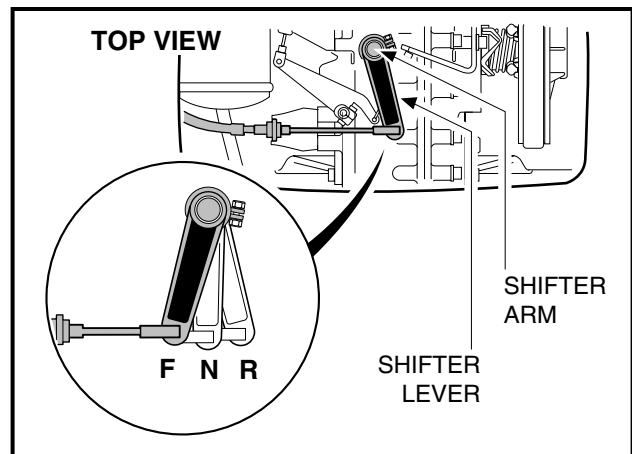
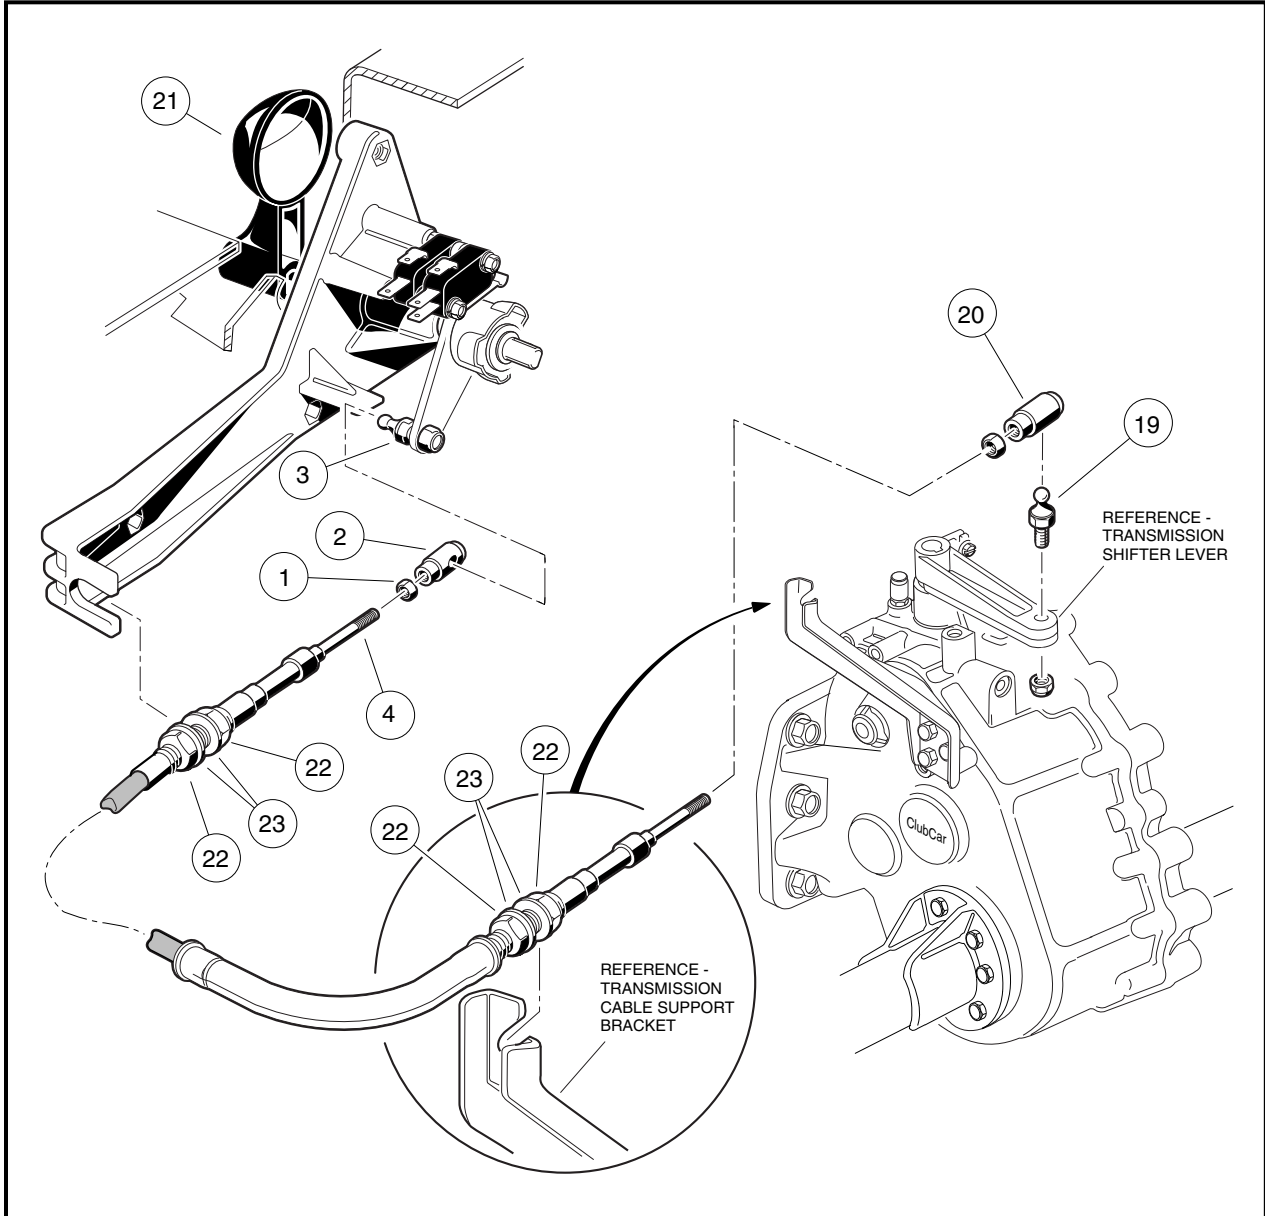

FIGURE 10-106
FIGURE 10-107
## REMOVAL OF THE FORWARD AND REVERSE SHIFTER CABLE (FIGURE 10-107)
1. Remove the ball joint socket (2) from the forward and reverse shifter assembly ball stud (3) (Figure 10-107, Page 72).
2. Remove the ball joint socket (20) from the shifter arm ball stud (19) on the transaxle (**Figure 10-107**).
3. Loosen the retaining nuts (22) on both ends of the cable (**Figure 10-107**).
2. Secure the cable with retaining nut (22) and washer (23) on each side of the shifter cable support bracket at the transaxle (**Figure 10-107**).
3. Secure the cable with retaining nut (22) and washer (23) on each side of the shifter cable support bracket at the forward and reverse assembly (**Figure 10-107**).
4. Install the ball joint socket (20) on the shifter lever ball stud (19) on the transaxle (**Figure 10-107**).
5. Install the ball joint socket (2) on the forward and reverse shifter assembly ball stud (3) (**Figure 10-107**).
With the shifter lever of the transmission in the neutral position (**Figure 10-106, Page 71**), the forward and reverse handle (21) (**Figure 10-107**) should be straight up. For minor adjustments, the nut (1) may be loosened and the ball joint (2) rotated in the proper direction to get proper adjustment (**Figure 10-107**).
For major adjustments, the cable retaining nuts (22) (**Figure 10-107**) must be loosened and adjusted. When the cable is properly adjusted, with the forward and reverse handle (21) (**Figure 10-107**) in the neutral position, the shift lever of the transmission will be in the neutral position (**Figure 10-106, Page 71**).